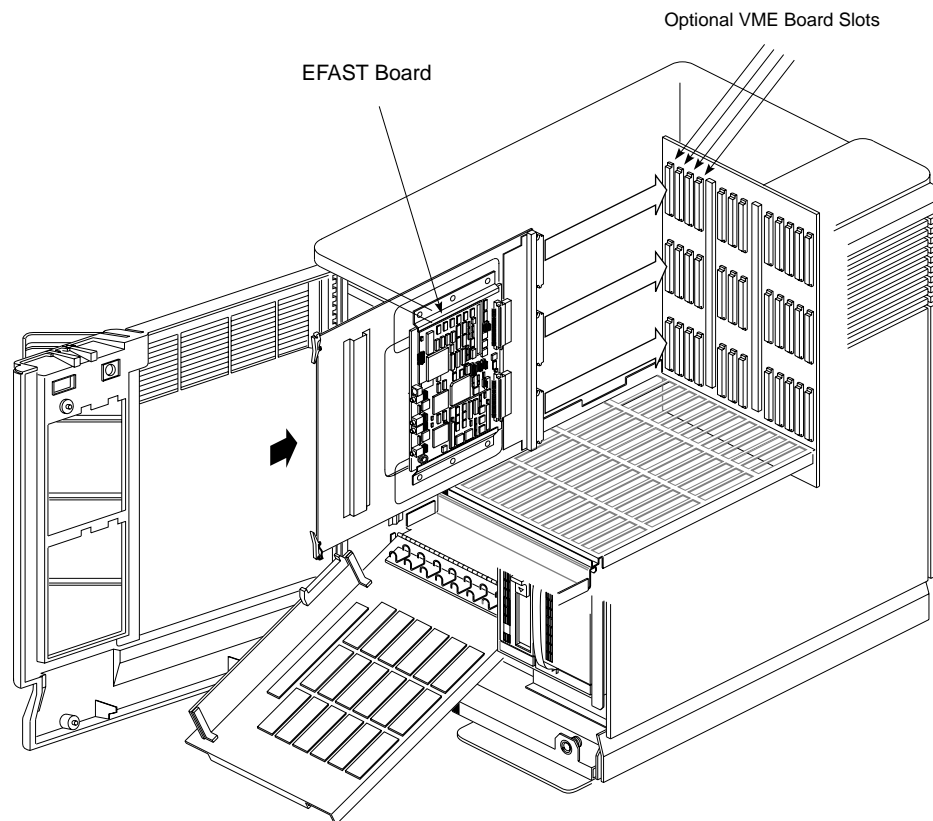

Figure 2-1 Installing the Board
7. Install the EFAST board and extender board into the selected VMEbus slot. See Figure 2-1 for an example of installing a network controller board into a system. Note that the component side of the board faces to your right.